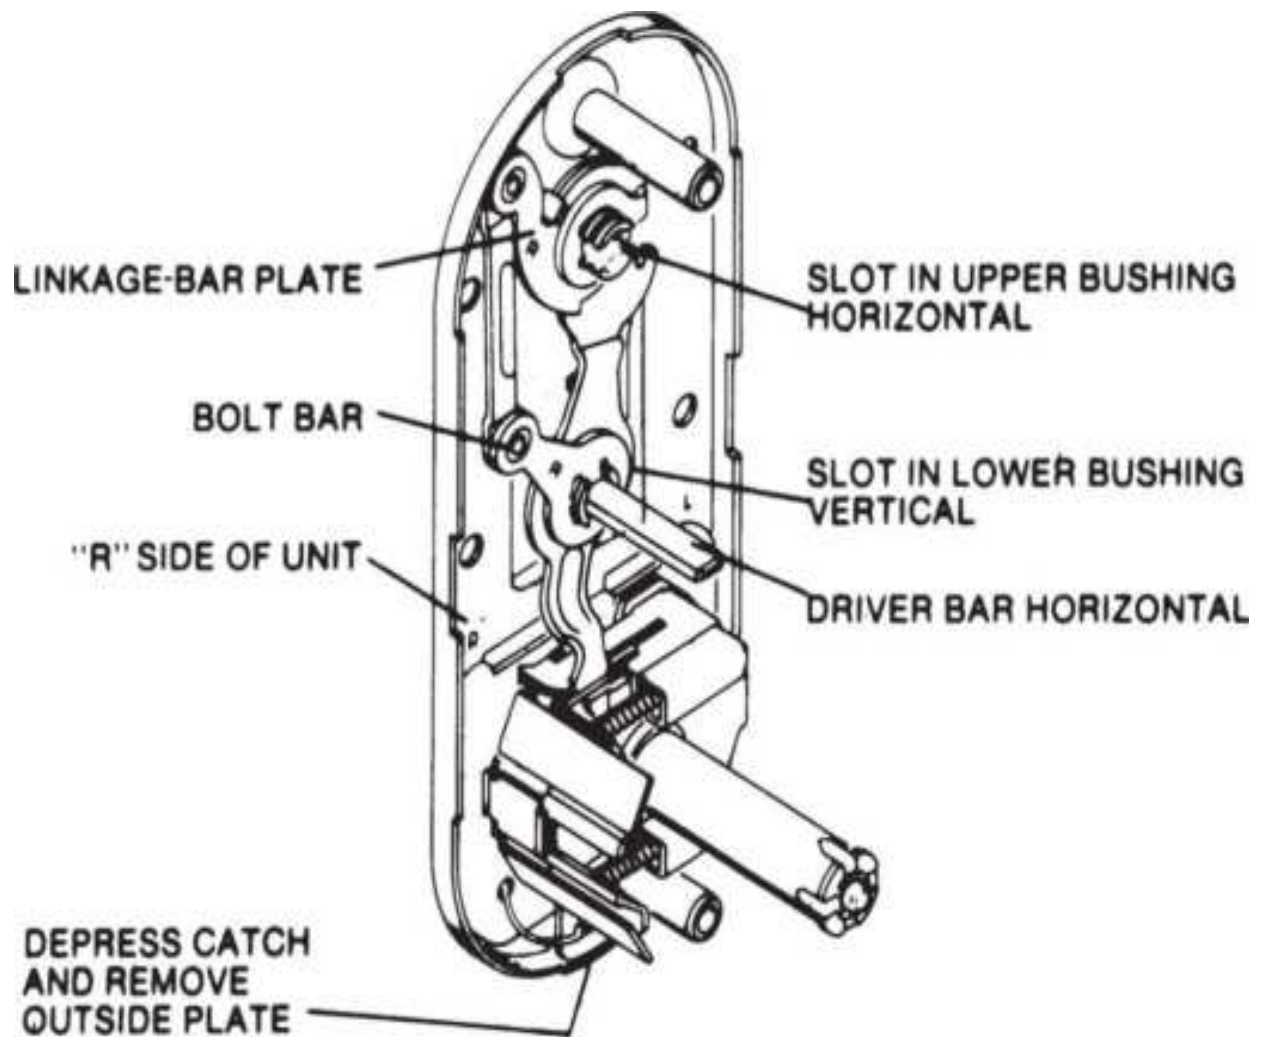

**Figure 13.69** Right-hand unit.
***Converting from right-hand to left-hand.*** Figure 13.69 is an assembled view of a right-hand unit. To convert it to left-hand operation, follow these steps: